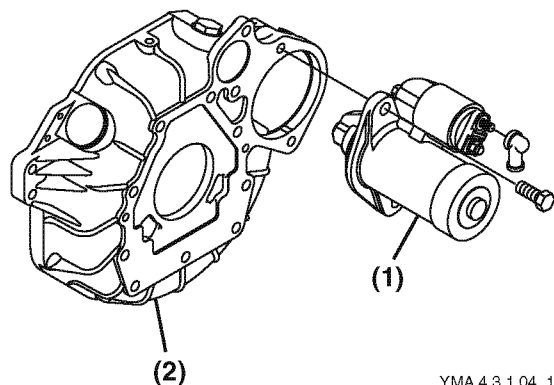

Figure 5-130
Remove the starter motor (Figure 5-130, (1)) from the flywheel housing (Figure 5-130, (2)).
Install the starter motor (Figure 5-130, (1)) on the flywheel housing (Figure 5-130, (2)).